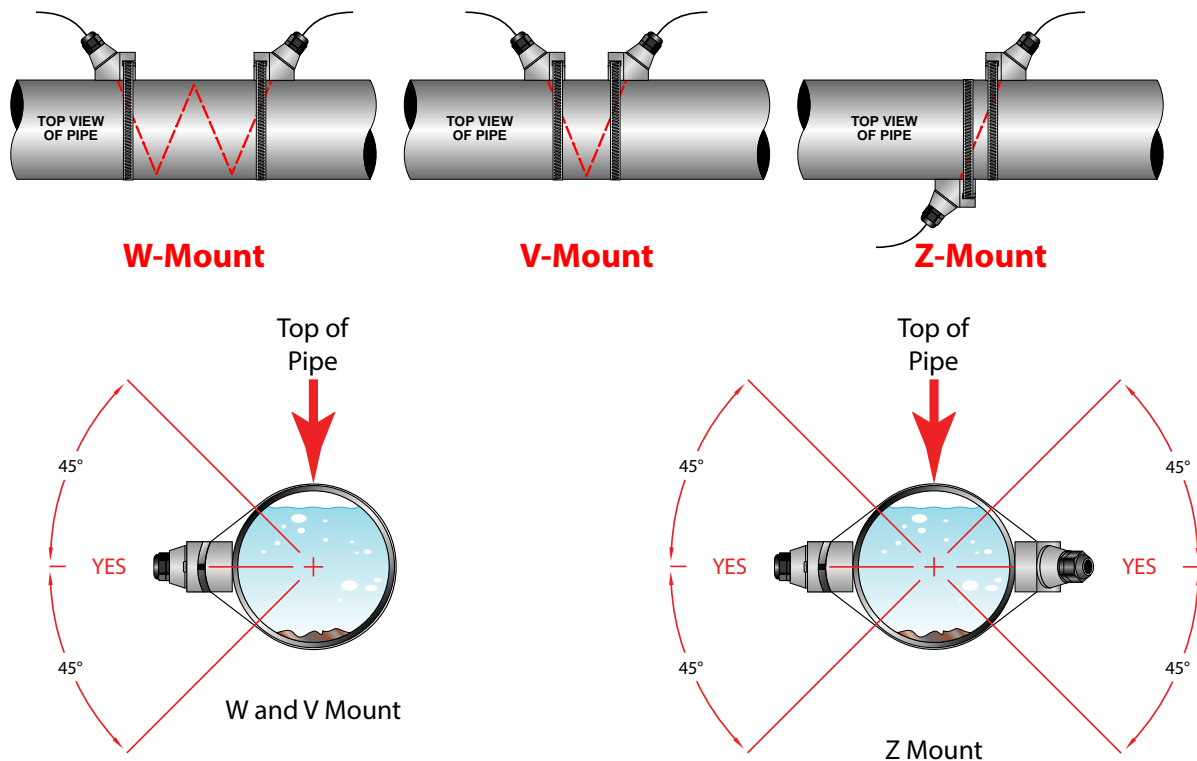

Figure 1: Transducer mounting configurations
- If the application requires DTTR, DTTN, DTTL or DTTH transducers, select a mounting method for the transducers based on pipe size and liquid characteristics. See *Table 3 on page 17*. The three transducer mounting configurations are shown in *Figure 1*. See “*Transducer Mounting Configurations*” on *page 20* for mounting procedures.